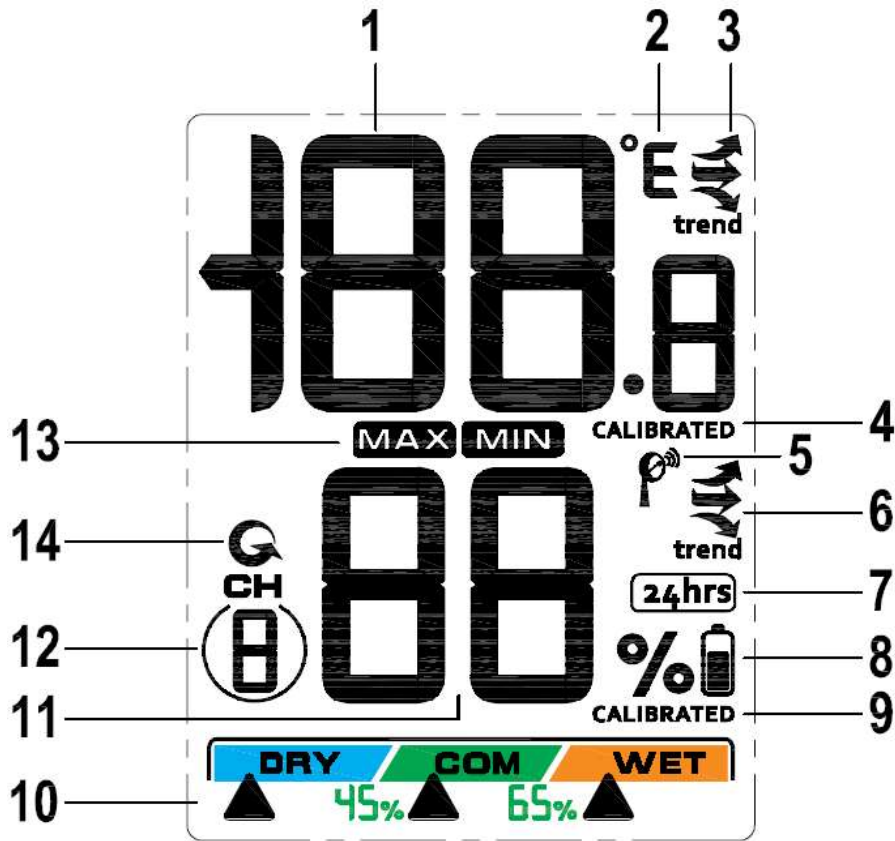

Figure 44
Insert two AAA batteries. After inserting the batteries, all the LCD segments will light up for a few seconds to verify all segments are operating properly, and the transmission icon  will flash once per 60 seconds thereafter. Each time it flashes, the sensor is transmitting data. Verify the correct channel number (CH) and temperature units of measure (°F vs. °C) are on the display, as shown in Figure 44 (#12).